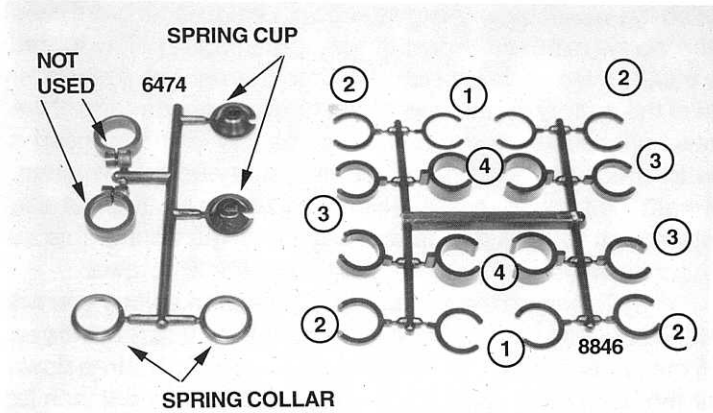

Fig. 104
Figs. 104 & 105 1) From bag #8-11 remove the #6474 spring clamps and cups (there will be two parts trees and each tree can do two shocks), you will also need to remove the new #8846 molded shock preload spacers, and four #8232 black
springs. **2)** You will find four different size preload spacers on the parts tree shown in fig. 104. The parts used are identified on the #6474 parts tree. The four sizes of spacers on the #8846 shock preload parts tree are numbered as follows: (1) 1/32", (2) 1/16", (3) 1/8" and (4) 1/4".